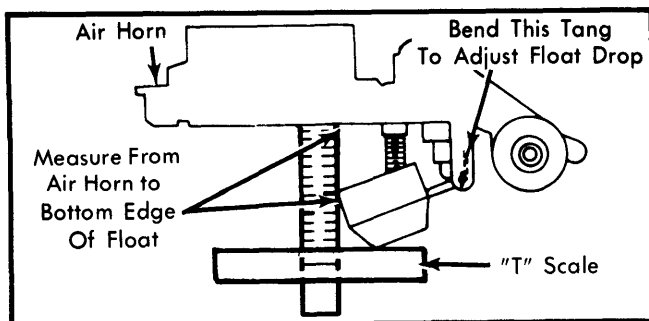

Fig. 2 Adjusting Float Drop
1) With air horn and gasket removed, turn right side up. Using a "T" scale, measure specified float drop from air horn gasket surface to bottom of float. See Fig. 2.